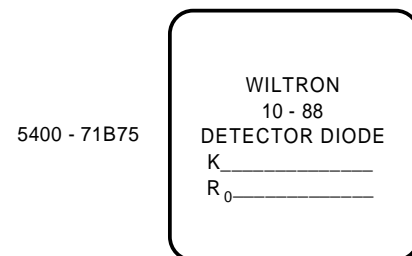

Figure A-3. Replacement Diode Container Label
Step 5 Obtain the “K” value from the replacement diode container label (Figure A-3).